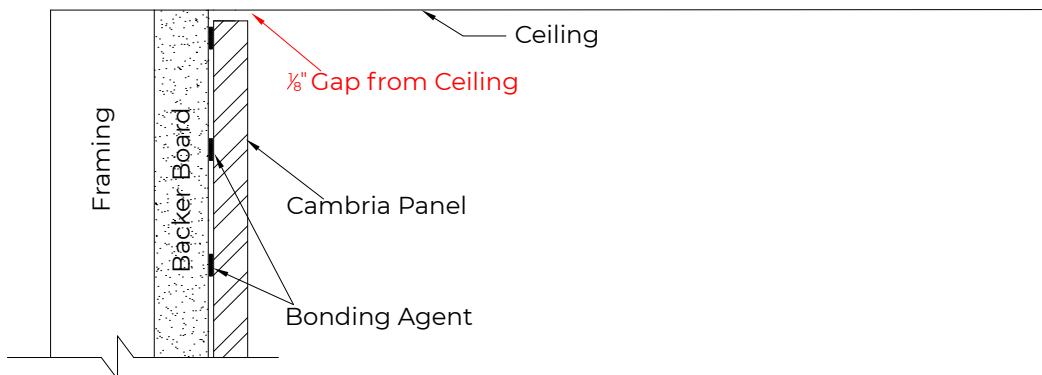

FIGURE 3
- 3. A 1/8" gap must remain between the vertical Cambria panel and the ceiling to allow for expansion of the structure the panel is adhering to. See Figure 3.